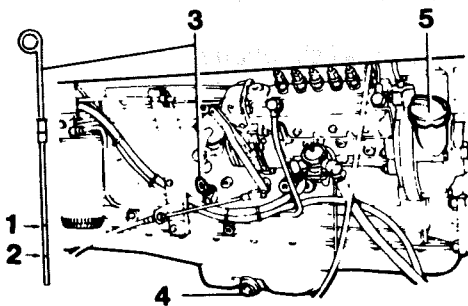

Fig 24 Engine
- 2 Check the oil level using the dipstick. The level should be up to the upper level mark (1 in Fig 24). Fill up with more oil as necessary.